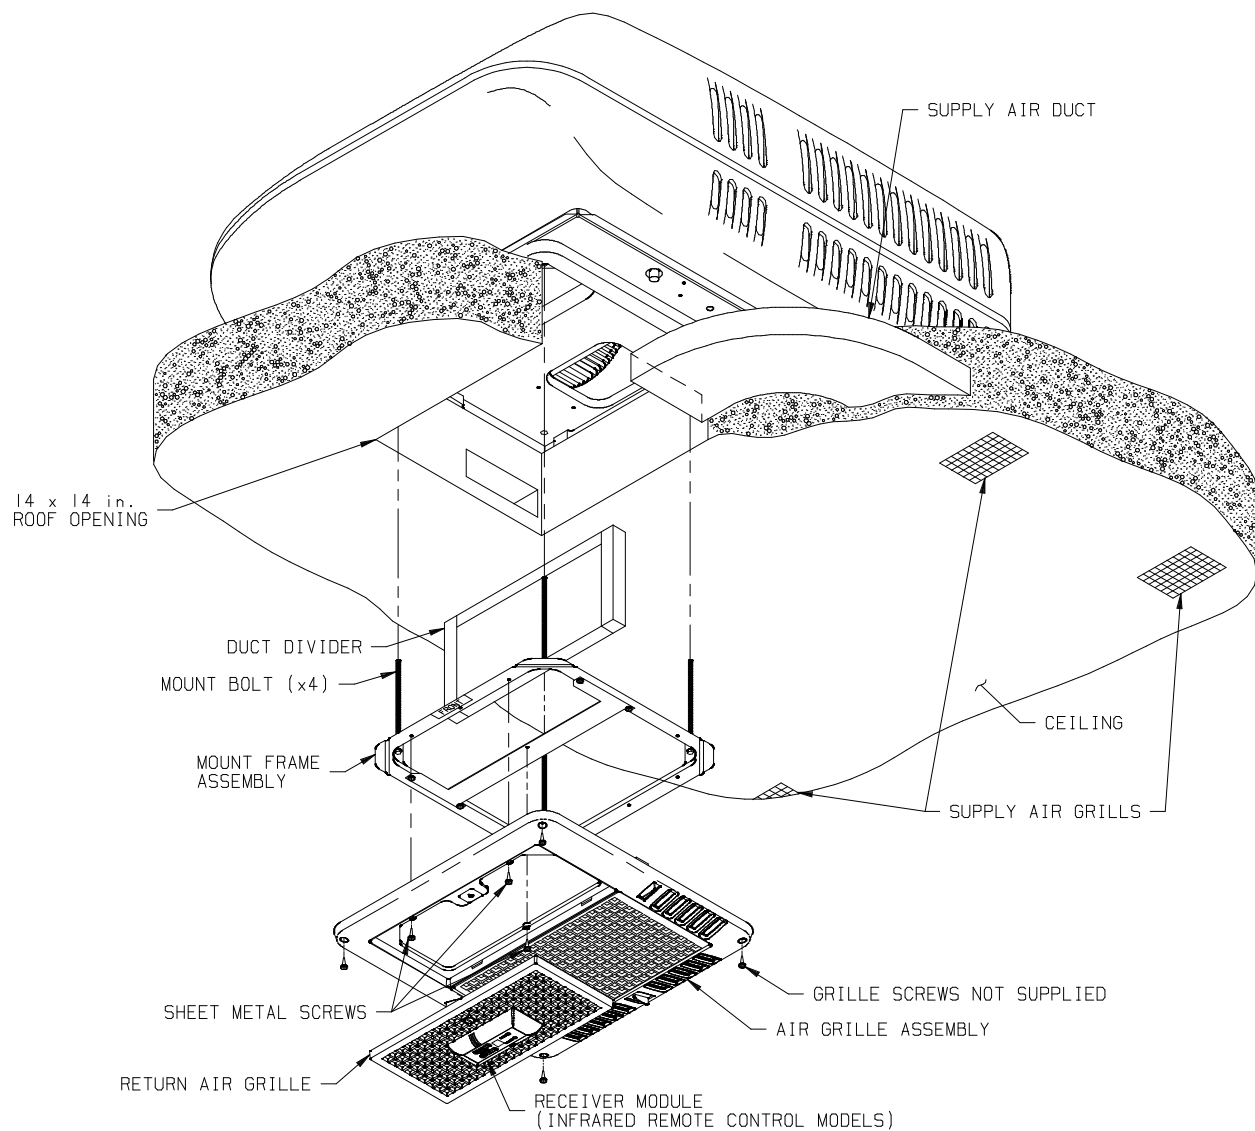

FIGURE 1
1. The field fabricated supply ducting must attach to both sides of the ceiling plenum. A minimum of two ducts are required, with one duct attached to each side of the plenum (See Figure 1).
A. Mounting (Refer to Figure 1) in Retro-Fit Application, Remove and Discard the Existing Insulated Plate and Skip to Step #2 of Item B.
2. Position the mount frame into the ceiling opening (See Figure 1).
3. Using the four bolts provided, secure the mount frame to the roof top unit. The four mounting bolts are to be applied up through the bottom of the mount frame and into the bottom of the roof top unit (See Figure 1). Tighten each bolt until the indicators of the gasket are at roof level.
B. Refer to Figure 1
1. Temporarily remove the air grille assembly filter door. A quarter-turn of the fastener will disengage the door. Attach the air grille frame to the mount frame with 3 screws as shown in Figure 1 – use 3/4" screws. Adjust as desired to insure that all foam parts are within the grille perimeter, and secure the corners of the grille to the ceiling. These 4 corner screws are not provided. Check all fits to insure that a reasonably air tight seal exists to separate unit supply air from unit return air. Re-install the filter door.